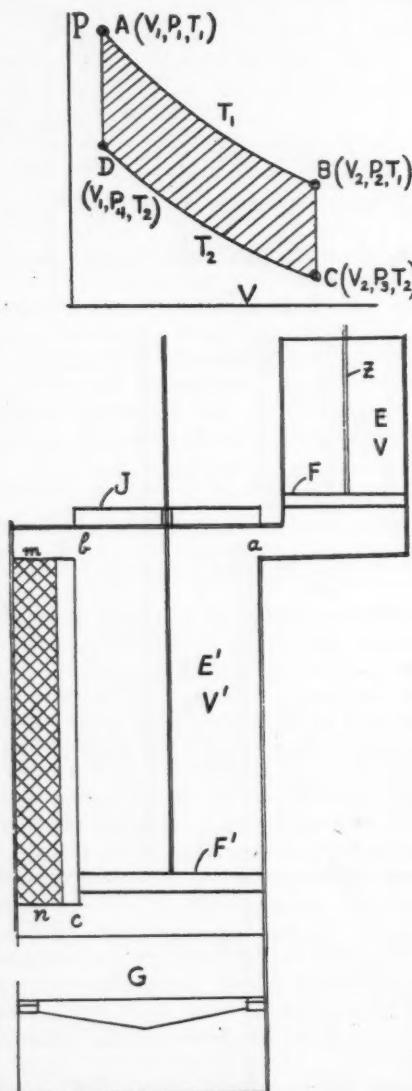

Fig. 21.—Schematic representation of a Stirling type of hot air engine and Stirling cycle.
*The Stirling Type of hot air Engine.* A Stirling type of hot air engine is represented schematically in Fig. 21. It consists of a generator cylinder  $E^*$  and a working cylinder  $E$ , whose volumes are respectively  $V^*$  and  $V$  and provided with the pistons  $F^*$  and  $F$  containing a heat insulating material, a furnace  $G$ , a refrigerator  $J$  (a double walled cover in which circulates cold water) and a regenerator  $R$  (a cylinder filled with wire gauze or pieces of sheet iron). The piston  $F$  is open to the atmosphere at the upper end and the piston rod  $Z$  is provided with mechanisms for the transmission of the power generated.